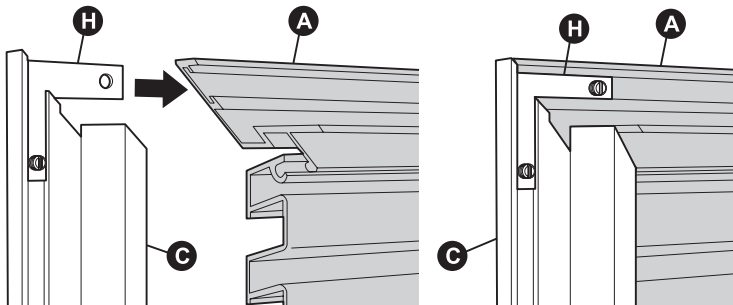

Figure 5
- Join each side trim (B and C) to the top trim (A). Make sure the ends of the Grille Assembly are captured in the channel of each side trim, then tape in place. Gently secure brackets (H) to top trim (A) by tightening set screws (I), only until snug to avoid dimpling the trim face. See Figure 5.